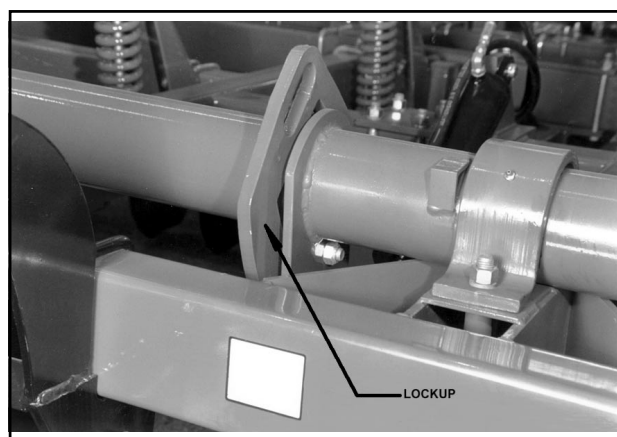

Figure 4-6 Lockup in Storage Position
- Attach lockup to rockshaft in storage position when not in use (**See Figure 4-6**).